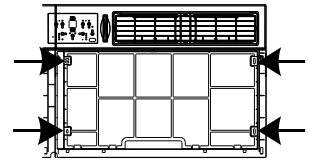

FIG. 2
3. Locate and remove the four front screws. These screws will be needed to re-install the front panel later. (See Fig. 2.)